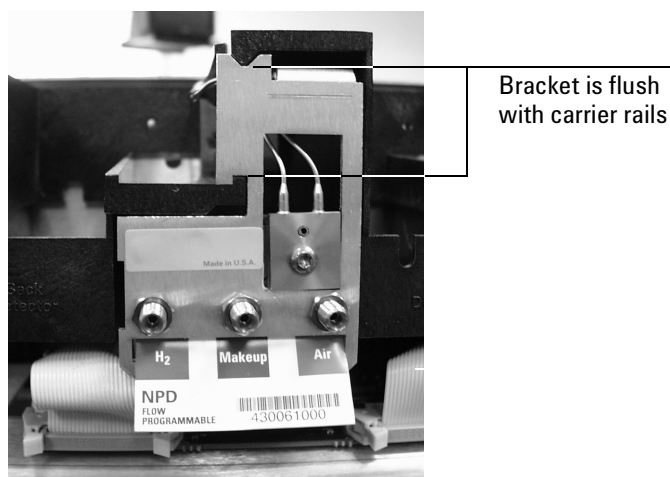

Figure 2. Manifold, after installation
1. Route the ribbon cable behind the manifold assembly as shown in Figure 1. Then, slide the manifold and bracket assembly into the slot until the bracket seats flush against the end of the rails. See Figure 2.